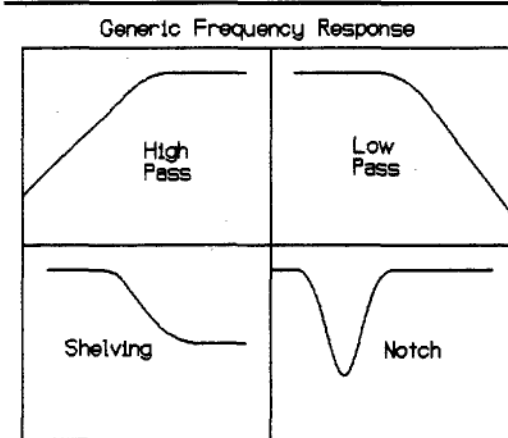

FIGURE 2-5: Various filter types.
**Filters** are just different names for certain type of equalizers. Figure 2-5 shows many different kinds of equalizers with their special names (if any) and their associated frequency response trends.